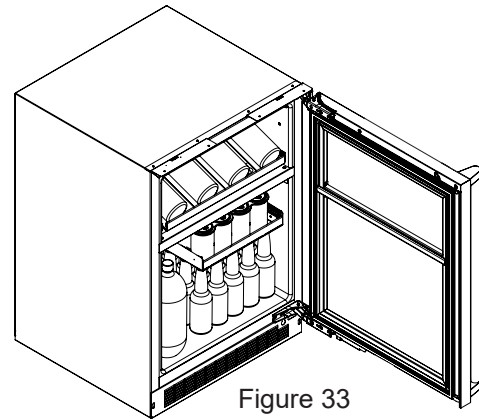

Figure 33
- (2) glide out wine convertible glass shelf (See Figure 33).